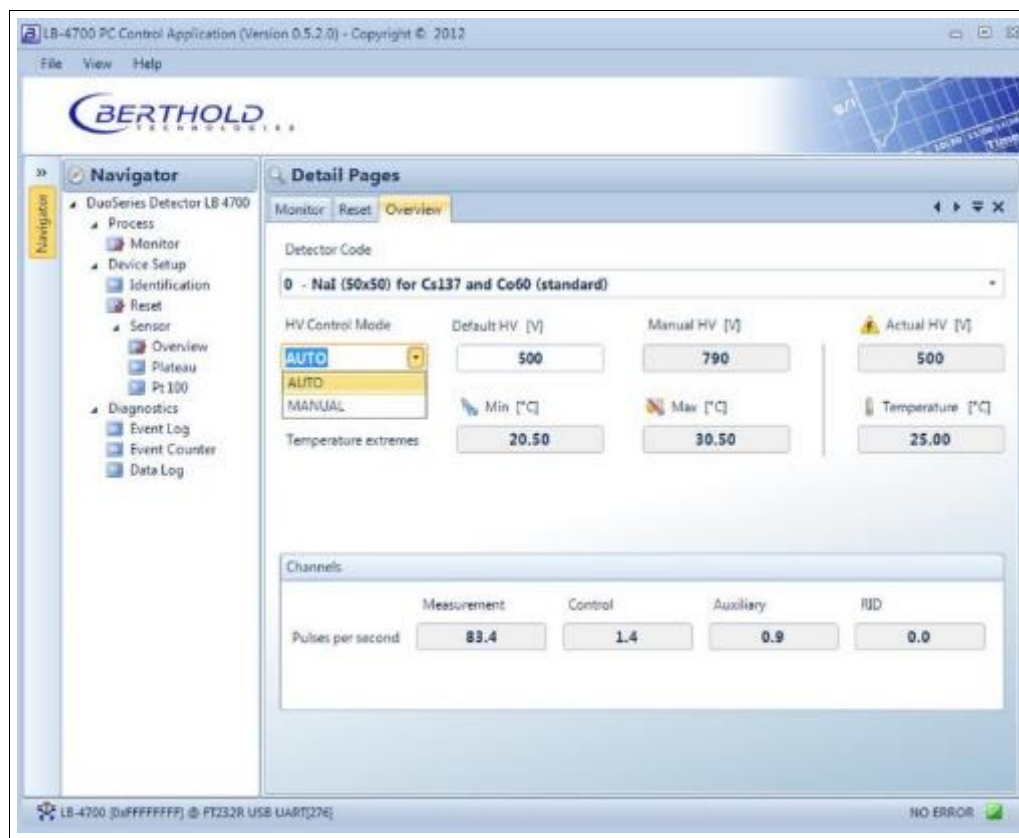

Fig. 38 Device Setup | Sensor | Overview | HV Control Mode
Open the submenu Overview in the menu group Device Setup | Sensor of the navigator by double-clicking on <Overview> (Fig. 38). You can select the detector code and set preferences for high voltage control here.
Click on the arrow button (Fig. 38, item 1) in order to set the desired detector code.
Click on the selection arrow (Fig. 38, item 2) in order to set the desired HV mode (auto or manual).
MANUAL	The high voltage is maintained at a fixed, user-entered value (manual HV, Fig. 38, item 9).
Click in the input field "Default HV" (Fig. 38, item 10) in order to enter the desired starting value for the high voltage control.